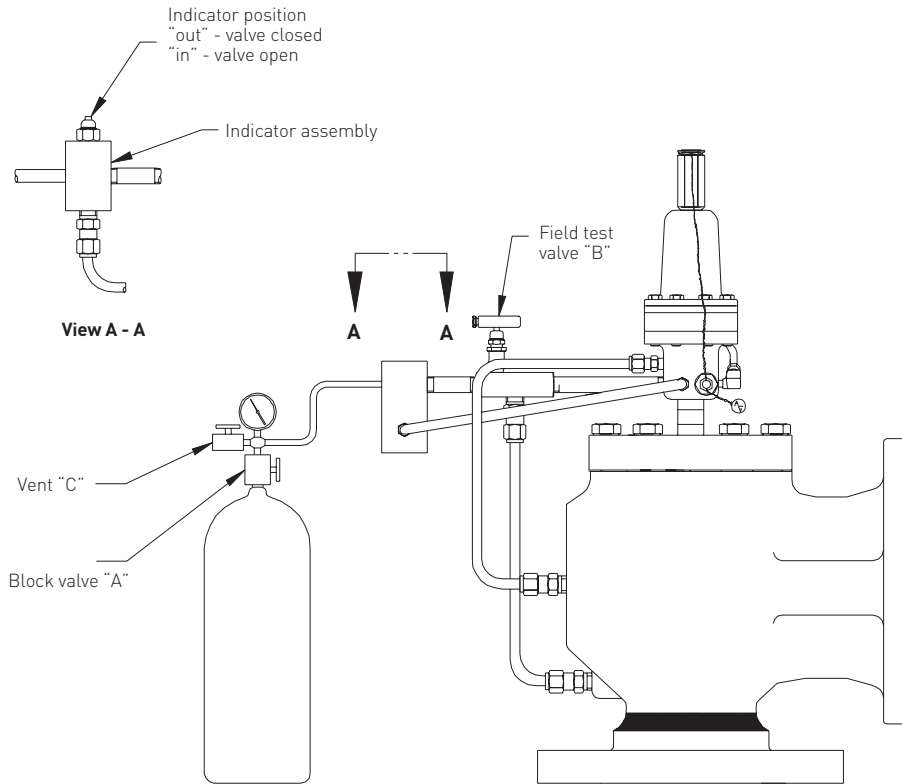

FIGURE 6
Alternatively, the pilot set pressure can be checked in the field if the valve is equipped with a field test accessory with an actuation indicator. An external test pressure is applied through the field test valve as shown in Figure 6. Set pressure is the pressure when the actuator indicator button retracts, or moves in.
- A. Connect test gas bottle as shown in Figure 6.